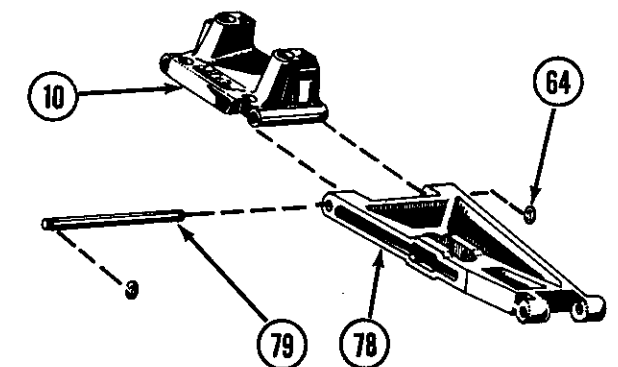

FIG. 34
5. Attach A-arms (78) to front bulkhead (10) with shock mounting holes forward using 1/8" x 1.650 hinge pins (79). Secure the pins (79) with two 1/8" E-clips (64). Fig. 34.